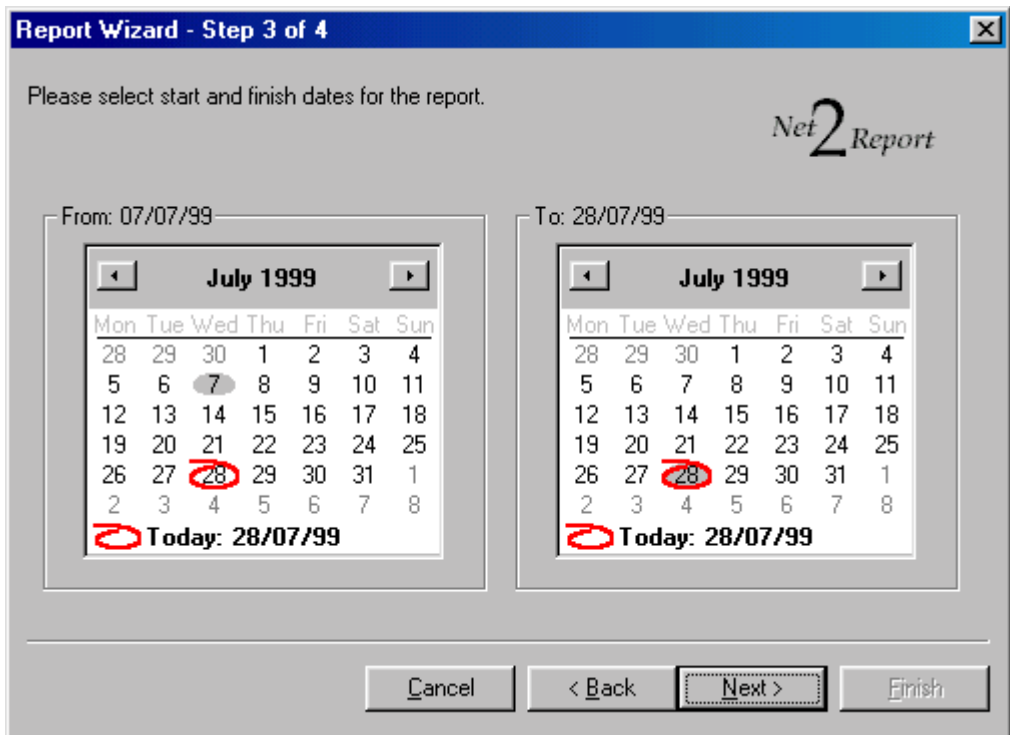

Figure 4.19
4. Select the start and end dates for the report, see figure 4.19.